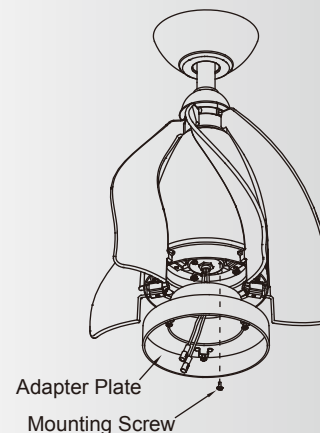

Fig. 21
Step 1. Remove one of the screws preinstalled on mounting plate and loosen the other two (do not remove). Place the two slot holes on the adapter plate over the 2 screws previously loosened from the mounting plate. Rotate the adapter plate until it locks in place at the narrow end of the key holes. Securely by tightening the 2 screws previously loosened and the one previously removed. (Fig. 21)